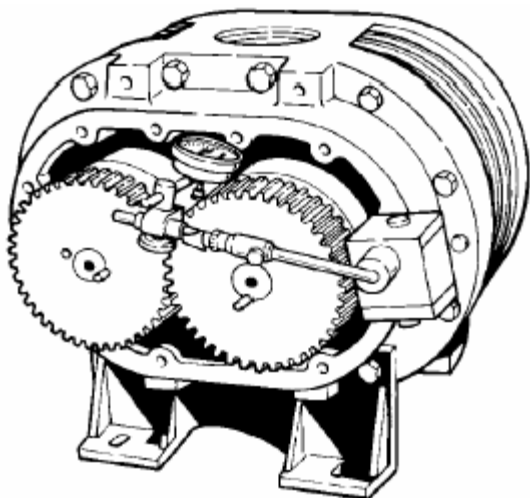

FIGURE 6-1
- A. Mount a magnetic base dial indicator on the gear headplate (see FIGURE 6-1).